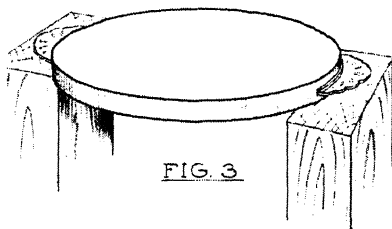

FIG. 3
11. Solder the handles and the square wire to the tray, using 50-50 wire solder (Fig. 3).